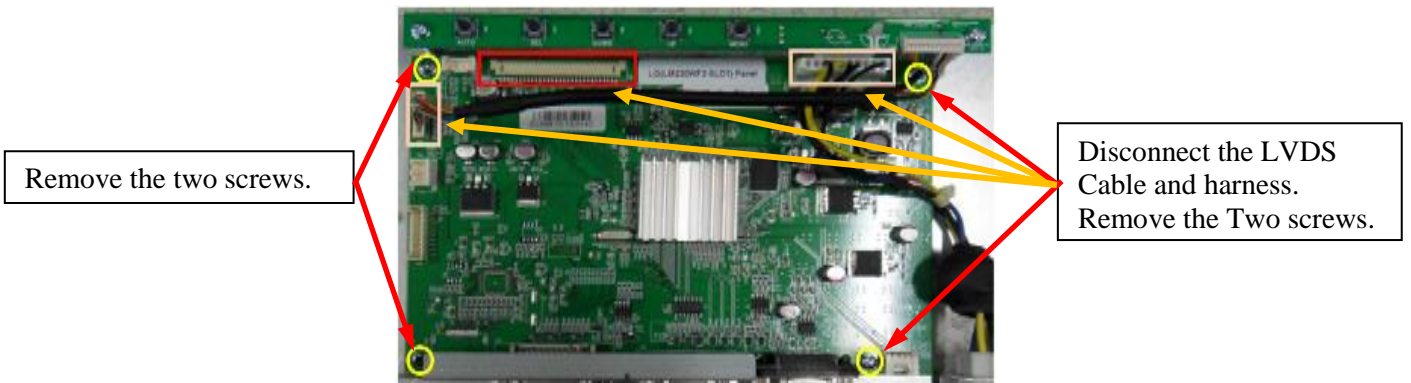

Figure 9. (91485500/KTL230S-05)
- 4) Disconnect the LVDS and converter harnesses from the A/D board and remove the four screws securing the A/D board to the monitor assembly. Retain the screws for later use. See Figure 9.